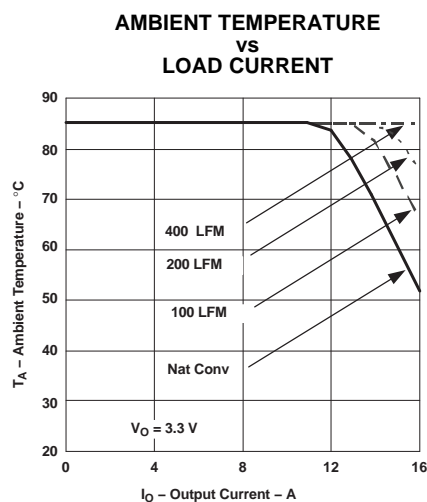

Figure 9.
- (2) The temperature derating curves represent the conditions at which internal components are at or below the manufacturer's maximum operating temperatures. Derating limits apply to modules soldered directly to a 100 mm x 100 mm double-sided PCB with 2 oz. copper. For surface mount packages (AS and AZ suffix), multiple vias must be utilized. Please refer to the mechanical specification for more information. Applies to Figure 9.